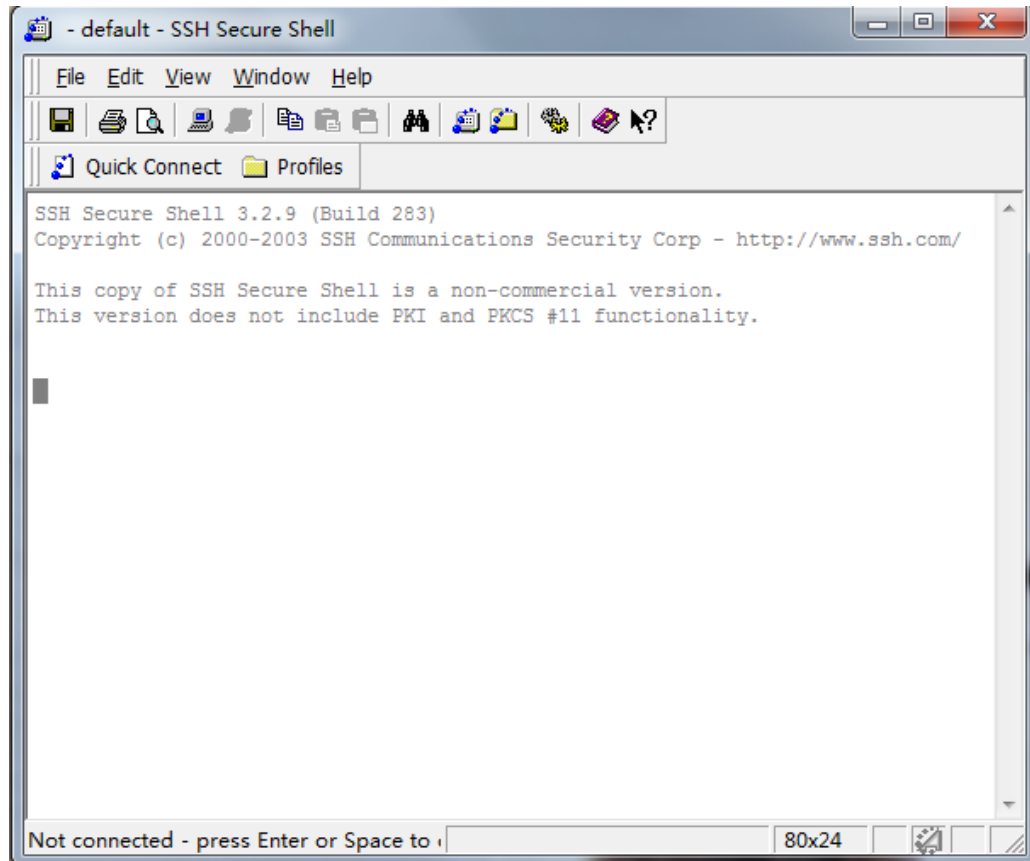

Figure 2-1 Quick Connect
- Open SSH Secure Shell, click "Quick Connect" button as shown in the following figure 2-1.